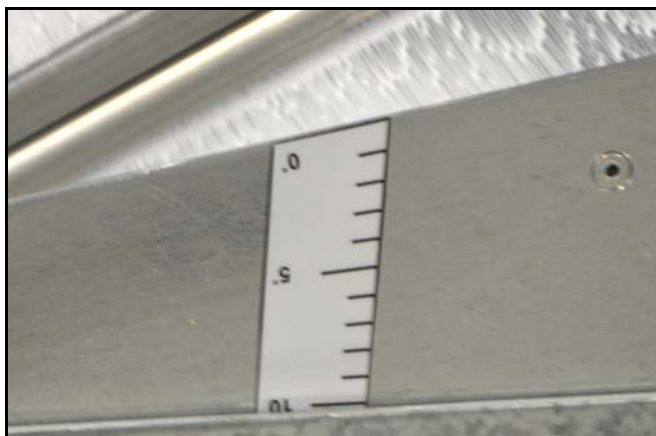

Figure 9 Setting purge angle.
- 2 Adjust purge sector to the specified angle, Figure 9.